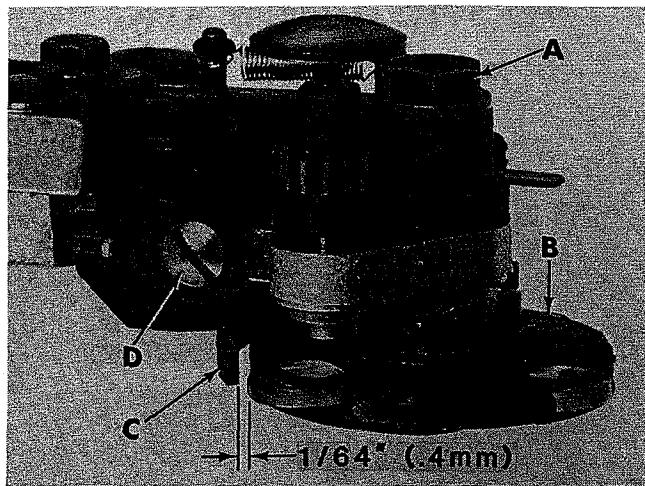

Fig. 39
With a button properly seated in the holder, guide (C, Fig. 39) should clear the button by 1/64 inch (0.4 mm) as the holder rotates.
Loosen hex head bolt (A, Fig. 39) and remove the button holder. Loosen screw (B) in the holder top cover. Insert three buttons, of the size to be sewn, in the holder. More or less spring pressure is applied to the buttons by slightly rotating the top cover while holding the bottom portion. When proper pressure is obtained, tighten screw (B) and assemble the holder to the clamp. Tighten hex head bolt (A).